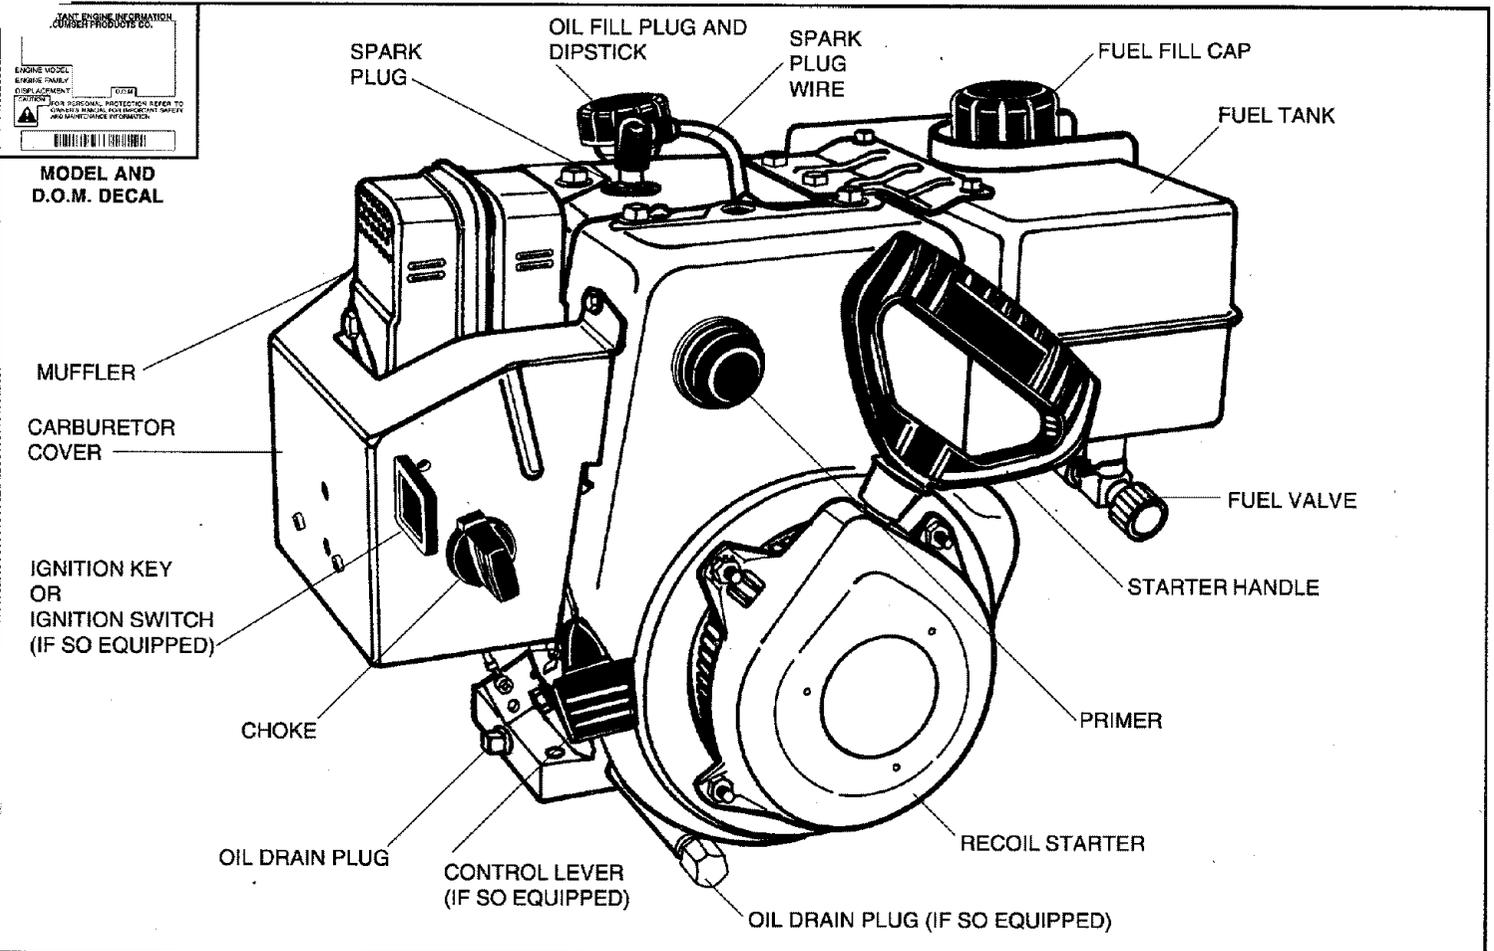
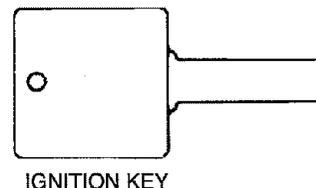

Figure 1
Figure 2
B. Clean area around oil fill plug (see Figure 1).
④ CHECK THE FOLLOWING:
B. Be sure spark plug wire is attached to spark plug (see Figure 1).
- Ignition key (if so equipped see Figure 2) is inserted into ignition keyslot in carburetor cover (see Figure 1).
① RECOIL STARTER (see Figure 1):
D. Grasp starter handle (see Figure 1) and pull rope out, slowly, until it pulls slightly harder. Let rope rewind slowly. Then pull rope with a rapid full arm stroke. Let rope return to starter slowly.
- B. Remove ignition key (if so equipped see Figure 2) from carburetor cover.